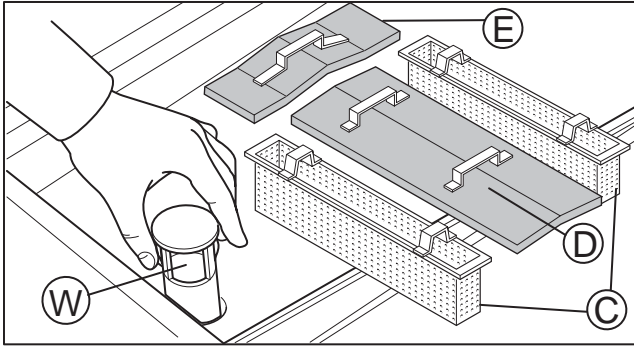

Figure 17
- Remove the tank filters "C"- "D"- "E" and the overflow "W" to drain the water from the tank (Figure 17).